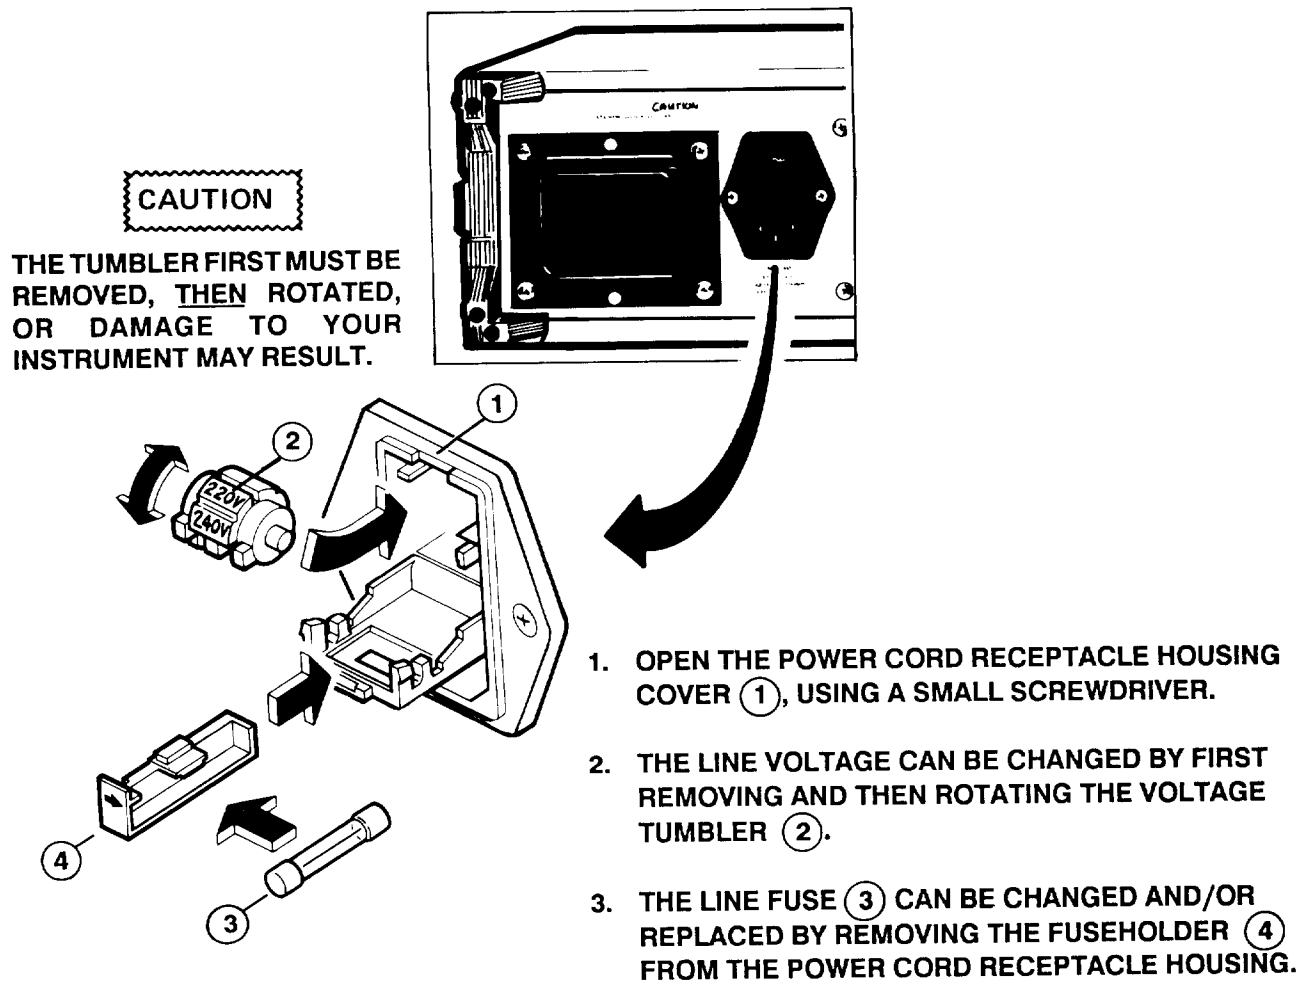

Figure 1-3. RF Preselector Voltage Selection
3. If you have an HP 85685A RF Preselector, set the rear-panel voltage selector switch to the correct line voltage. You must remove the voltage tumbler before rotating it to the desired voltage value. Refer to Figure 1-3. The line voltage must be within +5% -10% of the voltage setting. If the line voltage is not within these limits, connect a variable-ratio transformer (i.e., autotransformer) between the ac source and the HP 85685A. Make sure the correct fuse is installed in the fuse holder. The required fuse rating depends on the ac line voltage and is indicated in Table 1-3.